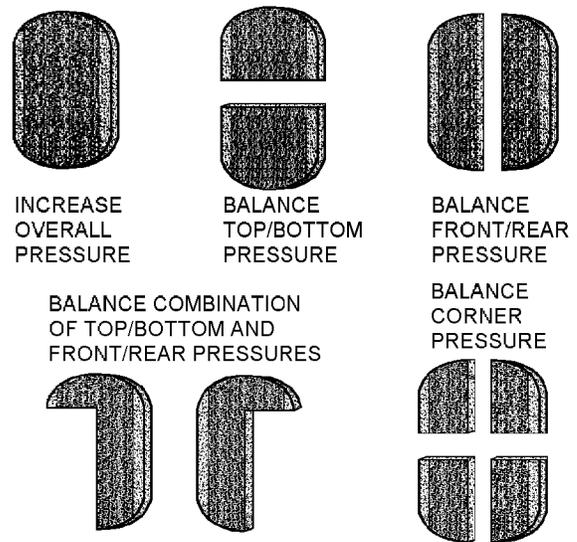

Figure 14. Earseal Compression
d. Inspect earseal compression. If required, adjust compression by adding earcup spacer pads. Refer to figure 14.